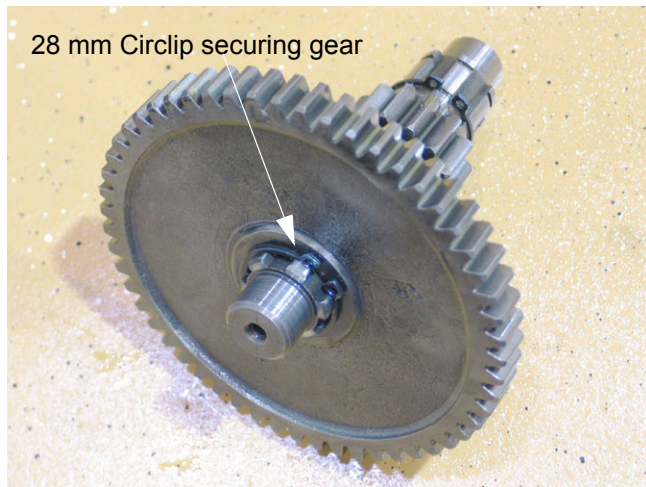

Figure 9.51
- 9.51. A 28mm circlip holds the 55-tooth forward gear to the reduction shaft. If either component shows wear or damage, remove this clip to separate them. See Figure 9.51.